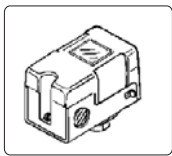

FIGURE 7
4. Totally close the pressure regulator, so that the compressor can fill up the tank. The compressor will automatically turn off (through the pressure switch, Figures 7 and 8) when the pressure gauge shows maximum pressure around 120 psig (8.3 bar).